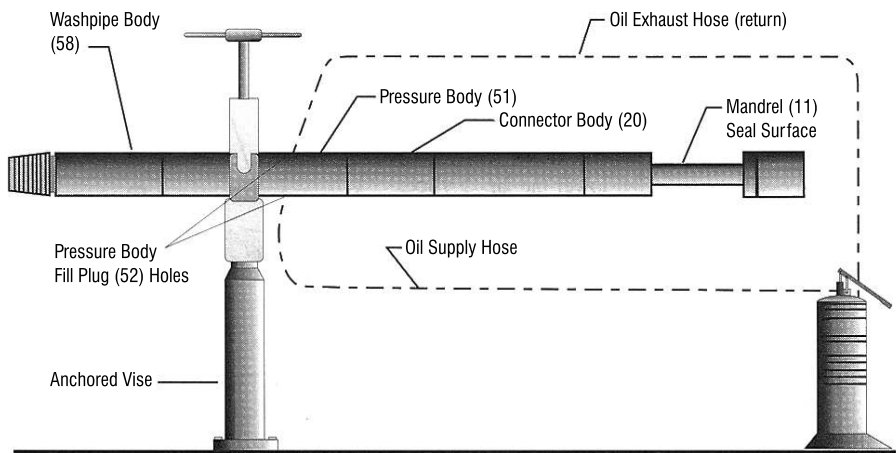

Figure 10
5. Slowly raise the jar to the horizontal position. Continue to fill the jar allowing air to escape as the jar is gradually raised to horizontal. See Figure 10 above. When the jar is horizontal and no more air is bubbling in the clear Exhaust Hose, it may be necessary to raise and lower the jar slightly above and below horizontal while pumping slowly to remove the last of the air.
7. Install Fill Plug (52), with installed Fill Plug O-Ring (53), into top Fill Plug hole and tighten securely.
9. Install Fill Plug (52), with installed Fill Plug O-Ring (53), into Pressure Body (51) and tighten securely.